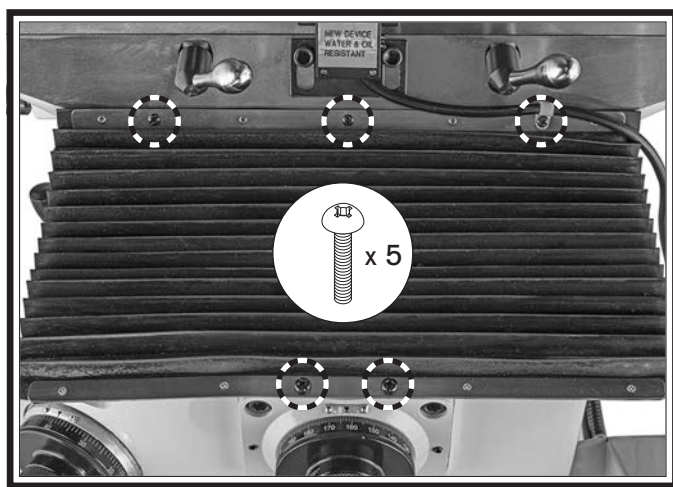

Figure 16. Front way cover installed.
1. Remove (5) Phillips head screws from front of saddle and knee (see **Figure 16**), position pleated way cover, and secure with removed screws.